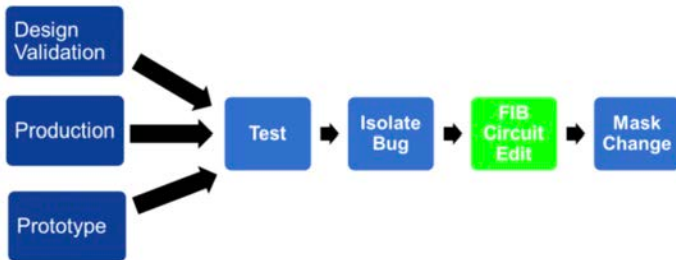

Figure 3: FIB circuit edit can be inserted both at the simulation stage and later during de-bug to optimize success rates during the IC design process.
- Accelerating time to market: Delivering on time is vitally important to customers. Their product designs are essentially on hold until they can get devices. FIB circuit edit speeds up the entire cycle. It gets customers into production and avoids loss of reputation, or the risk of competitors getting their foot in the door, etc. Some large OEM customers also impose late-delivery penalties that can sometimes reach millions of dollars. Fig. 3 shows the best approach for integrating FIB circuit edit into the overall IC development and testing process.